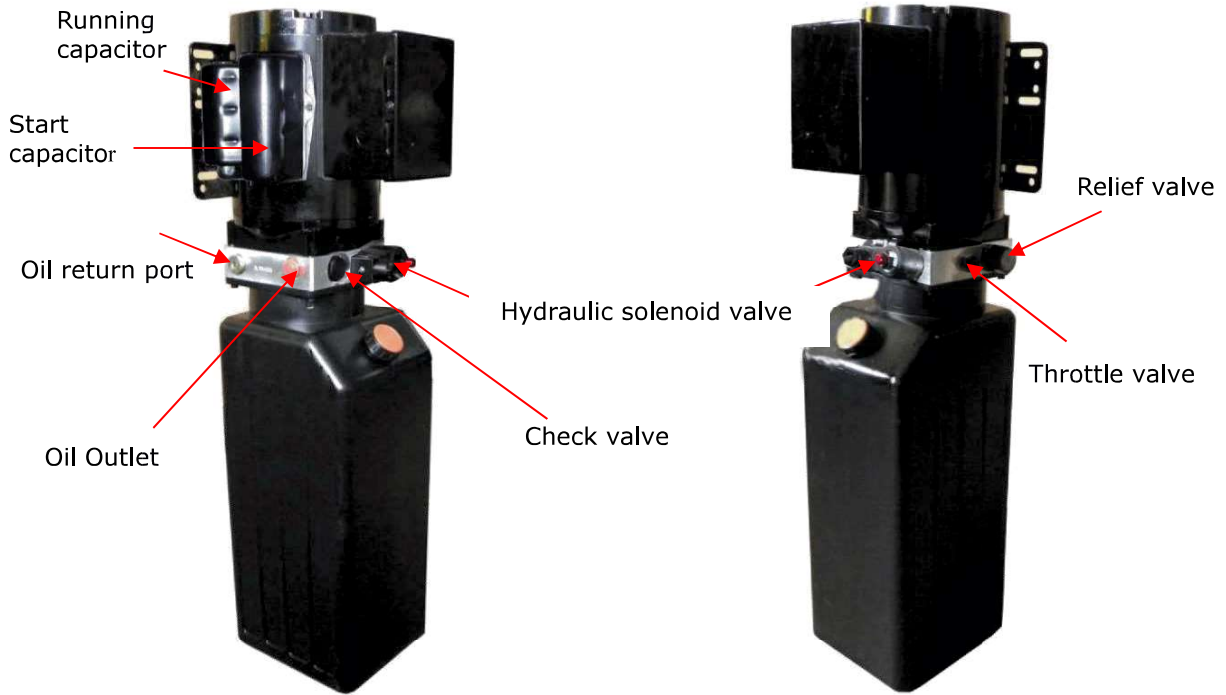

Fig. 26
b. PEAK Electric power unit, 220V/50Hz/1 phase (See Fig. 26)